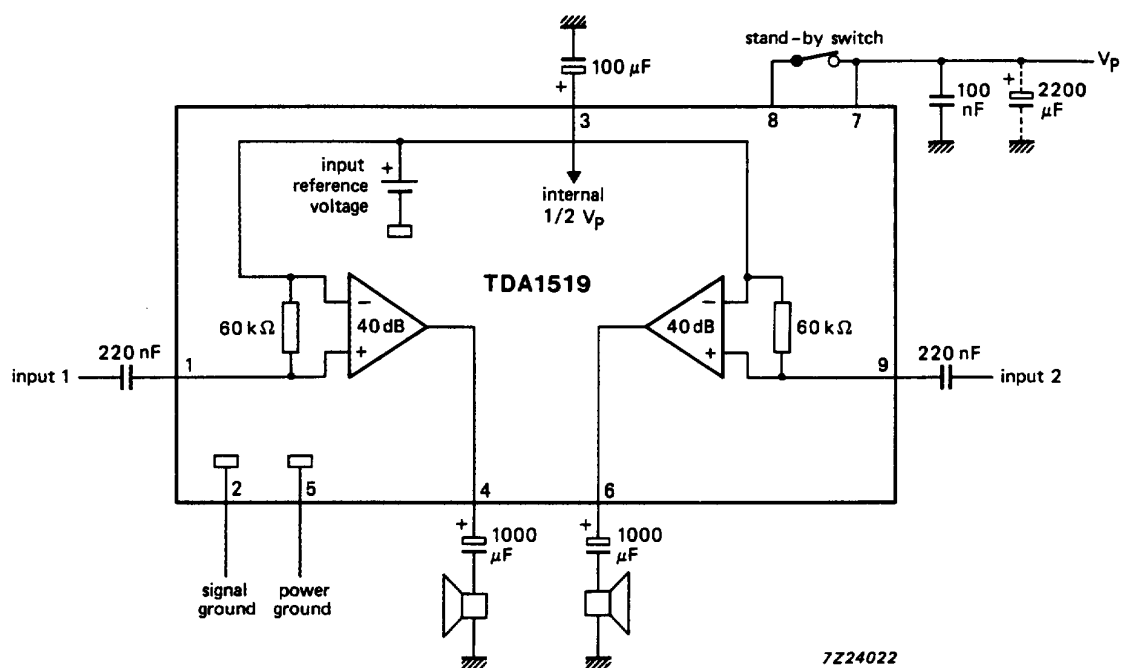

Fig.4 Application circuit diagram.
1. All characteristics are measured using the circuit shown in Fig.4.